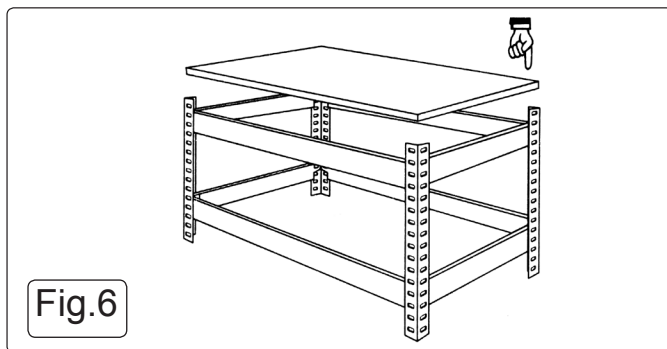

Fig.6
- 4.7 See Fig.6. Move the frame into position in the chosen area. Place the 5 MDF shelves onto the shelf supports.